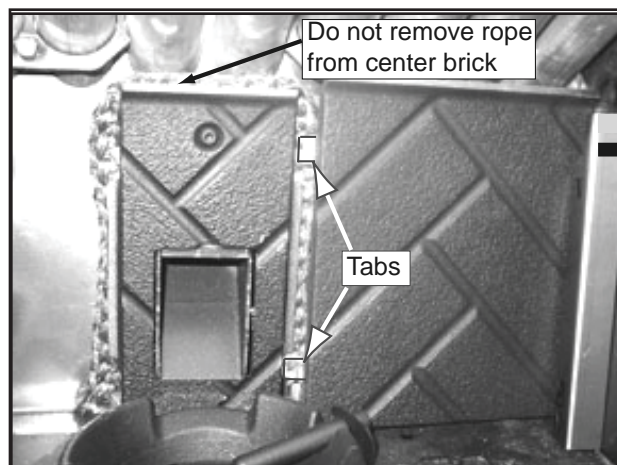

Figure 22.4
1. Place right brick in behind the right bracket and then slide to the left so the tabs are behind the center brick. **Figure 22.4.**